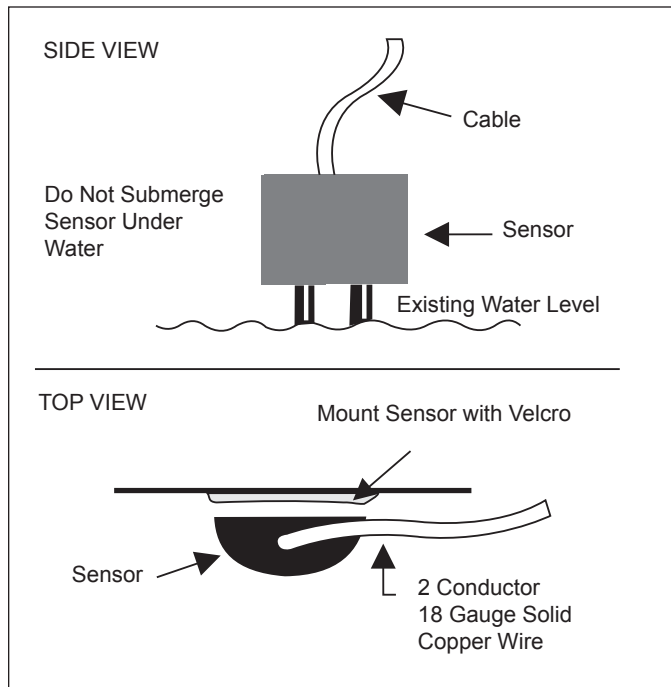

Figure 13. Half-Moon Sensor Retrofit Installation
- a. Use the half-moon shaped sensor to mount horizontally to an existing skimmer. The half-moon sensor can be mounted with a suitable adhesive in the skimmer throat behind the whirl door arc. See Figures 13 and 15.